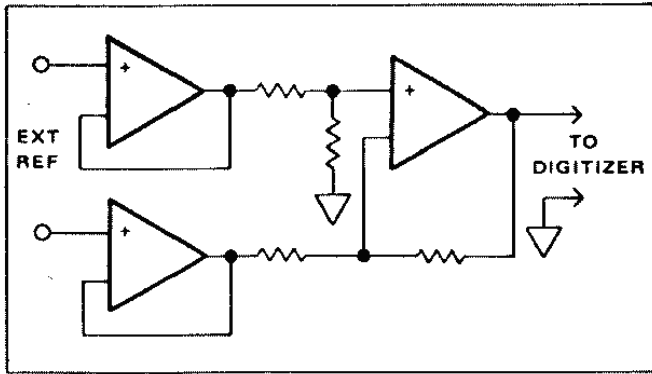

Figure 4.14 - 4-Wire Ratio Option
4.53 The four wire ratio circuitry is mounted on a single printed circuit board and occupies connector J14 on the Main Logic board. The 4-wire ratio option eliminates ground loop errors in ratio measurements by permitting the reference input common lead to float in reference to the signal input common. The circuitry, shown in figure 4.14, consists of two gain-of-one isolation amplifiers driving a differential potentiometric amplifier. Field installation of the ratio board requires removal of jumpers W1 and W2 on the Main Logic board.